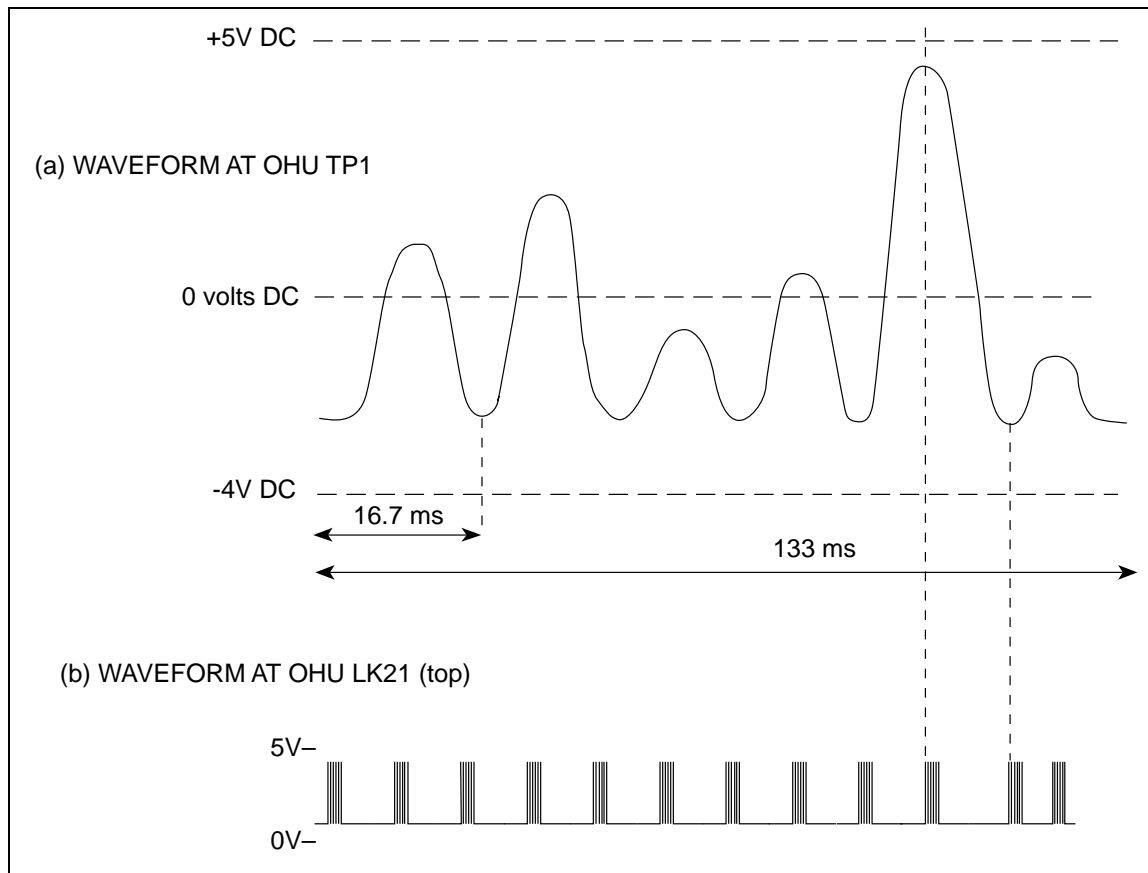

Figure 5-2 Expected IR signal at the OHU
- 3 the quality of the IR signal may be poor. Check with an oscilloscope that the waveform shown in Figure 5-2 (a) appears at TP1 on the OHU pcb (with ground connection to E). It is important that the observed waveform is as smooth as in Figure 5-2.
- 4 connect the second channel of a dual-beam oscilloscope to the OHU terminal LK21 (top). With the oscilloscope trace mode set to 'CHOP', check that the 'phasing' of the wheel pulses shown in Figure 5-2 (b) is such that they coincide with the peaks and troughs in the IR signal. If they do not, please contact Procal as your system may need recalibration. *DO NOT UNDER ANY CIRCUMSTANCES ATTEMPT ANY ADJUSTMENT OF YOUR OHU.*